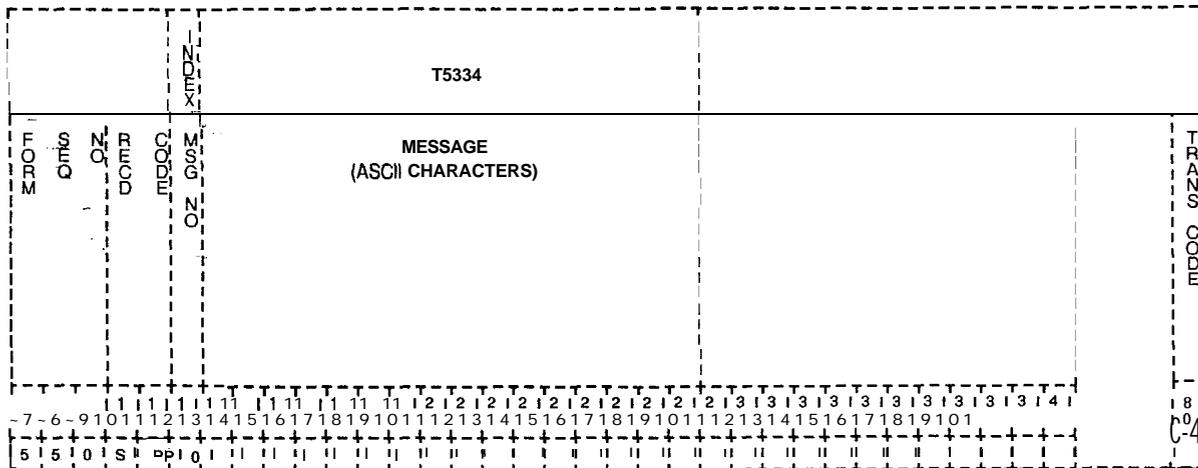

**Figure 16.7 Record Code SM: Source Messages Data Sheet**
**16.7** Record Code SM, Figure 16.7, defines the message that appears in the LCD (Liquid Crystal Display) of the agent's instrument. These messages are displayed when a call from a source group is routed to an agent.